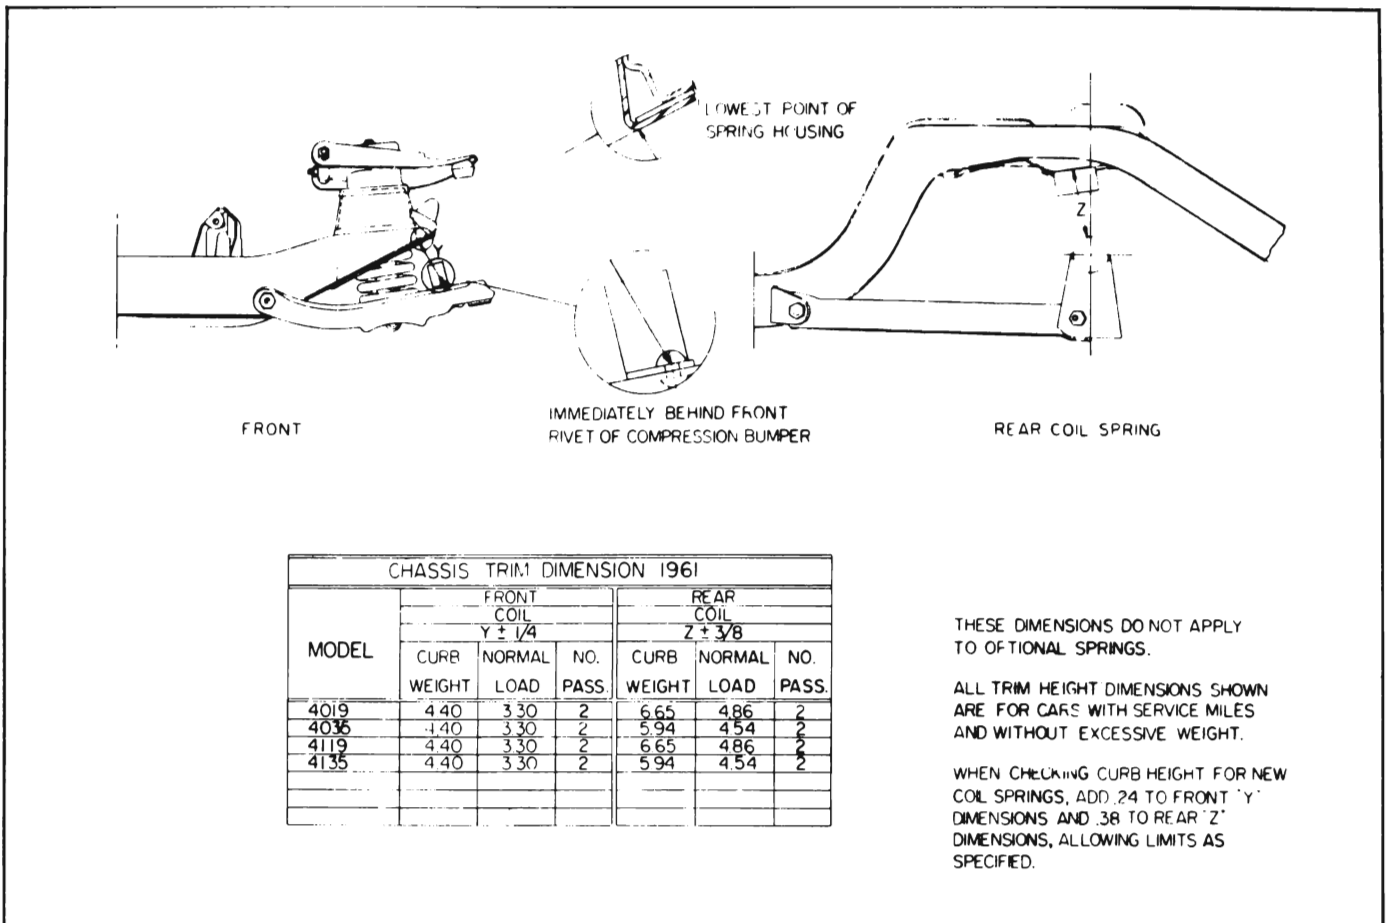

Figure 7-14—Trim Height Chart
1. Front Springs. On a car having service miles the front spring trim dimension "Y" should be as shown in Fig. 7-14 chart.
2. Rear Springs. On a car having service miles the rear spring trim dimensions should be as shown on Fig. 7-14 chart.